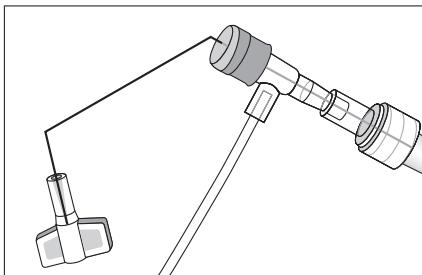

Figure 3
8. Kink proximal end of placement wire at side-port connector to minimize risk of placement wire exiting distal tip of catheter during insertion (refer to Figure 3).